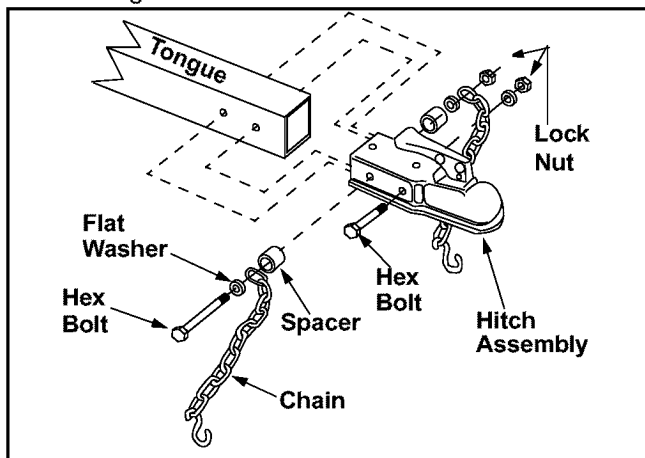

Figure 4
- Insert hex bolt through flat washer, end of safety chain, spacer, and then rear hitch hole. Pivot the end of safety chain so it faces the ball end of hitch. See Figure 4.
- Insert other spacer, flat washer, and safety chain on the other end of the hex bolt and secure with hex lock nut. See Figure 4.